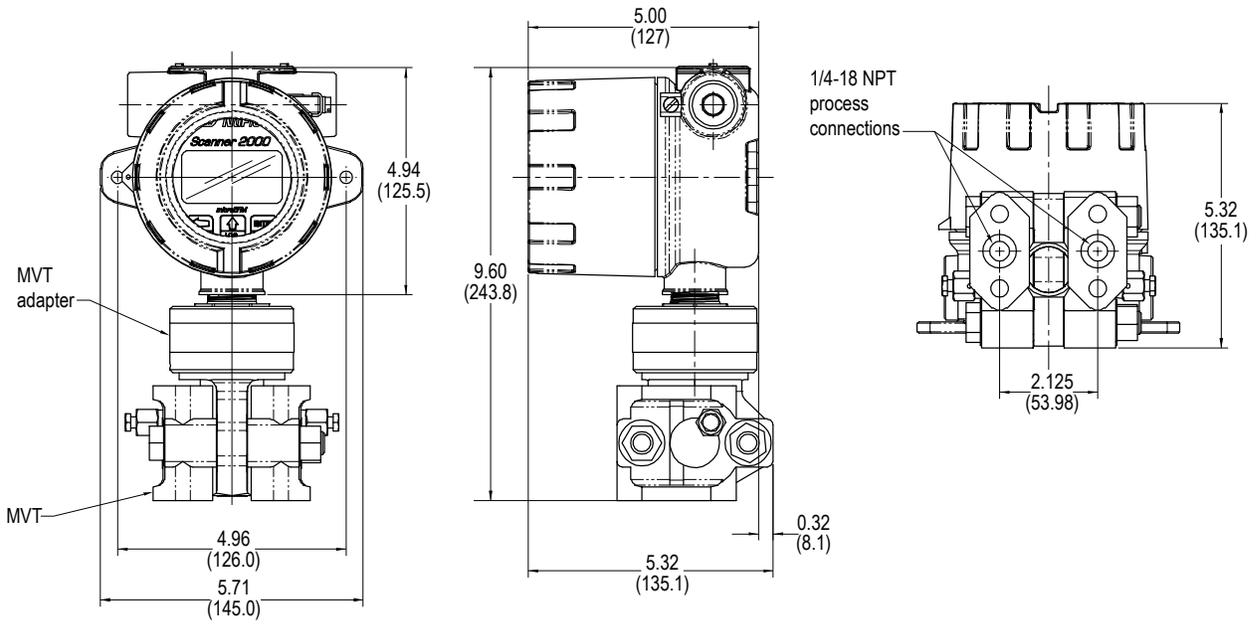

Figure 2.1 - Scanner 2000 with direct-mount MVT (MVT with bottom ports shown)
- Direct-mount to an orifice or cone type DP meter. The integral multi-variable sensor may be connected to the pressure taps with stabilizers or a heavy wall nipple with adapter flanges, and a 5-valve manifold (Figure 2.1, page 31). A bottom-port MVT is recommended for gas measurement; a side-mount MVT is recommended for liquid or steam measurement.